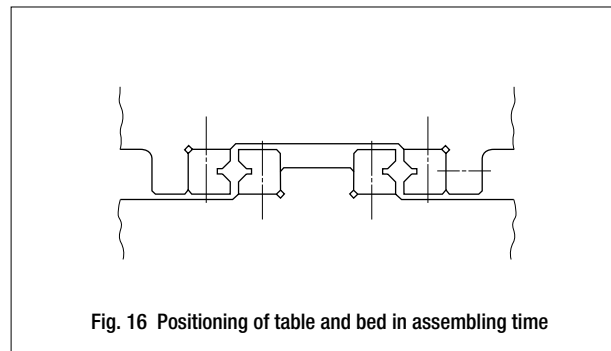

Fig. 16 Positioning of table and bed in assembling time
**5 Assembling of table and bed (Fig. 16)**